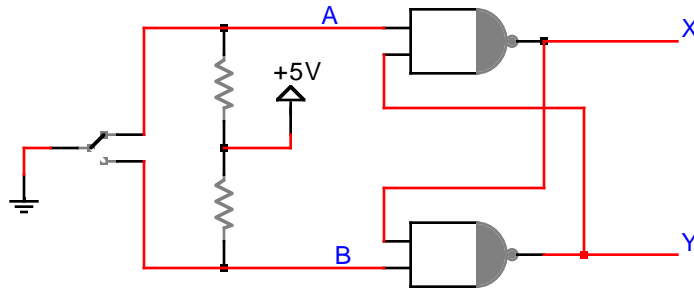

Figure 2
- b) Use the circuit to build a bounceless switch shown in Figure 2. Explain why it is bounceless and compare it with a mechanical switch.